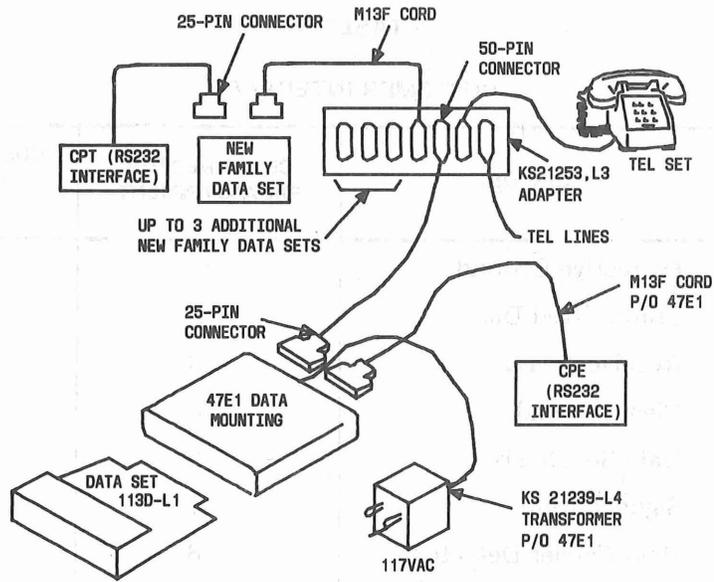

Fig. 4—DS 113D-L1/2 Sharing Telephone Set With up to Four Other New Family Data Sets
- A maximum of five data sets in an individual data mounting sharing a single telephone set via a KS-21253-L3 adapter (Fig. 4).